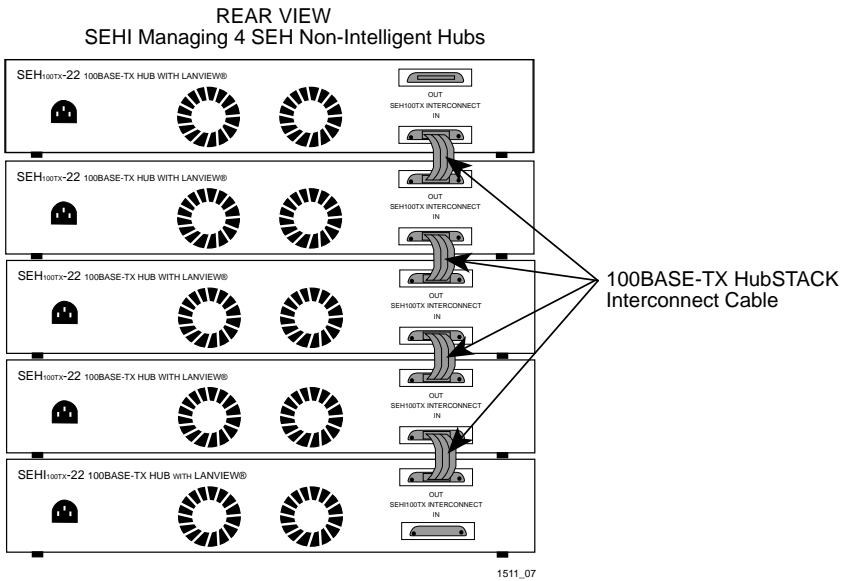

Figure 4-5 Stacking the SEH and SEHI
5. Attach the interconnect cable to the “IN” port on the rear panel of the SEH as shown in Figure 4-5.
3. Attach the interconnect cable to the “IN” port on the rear panel of the second SEH in the stack as shown in Figure 4-5.